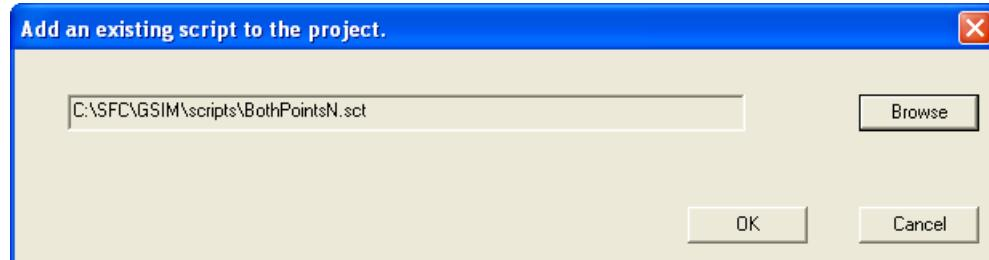

Figure 4.53 “Add an existing script to the project” dialog box
- click Add Script. GSIM will invoke a dialog box similar to figure 4.53;